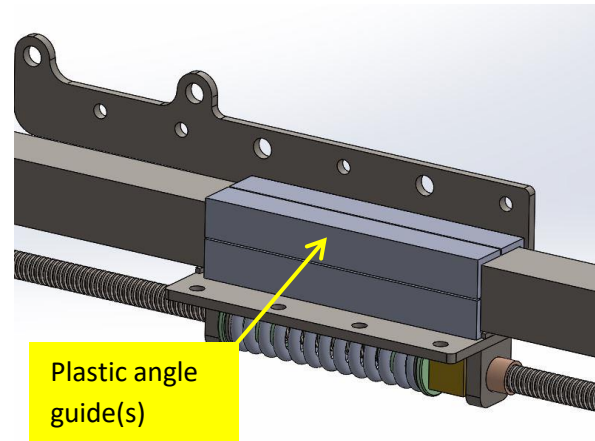

Figure 10
12. Place the two (2) remaining plastic angle guides on top of the sliding mechanism. **Figure 10**